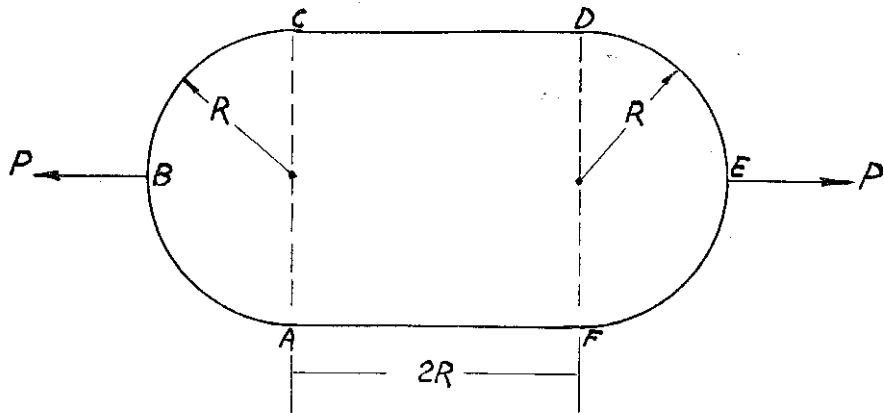

Figure 1
1. A link having a relatively small uniform section and of the shape shown in Figure 1 is under the action of a pull  $P$  applied along its longitudinal axis. The portions  $ABC$  and  $FED$  are semicircles,  $AF$  and  $CD$  are straight and parallel to each other. Draw the bending moment diagram and find the increase in the distance  $BE$  produced by the applied loads  $P$ . Consider strain energy due to bending only.